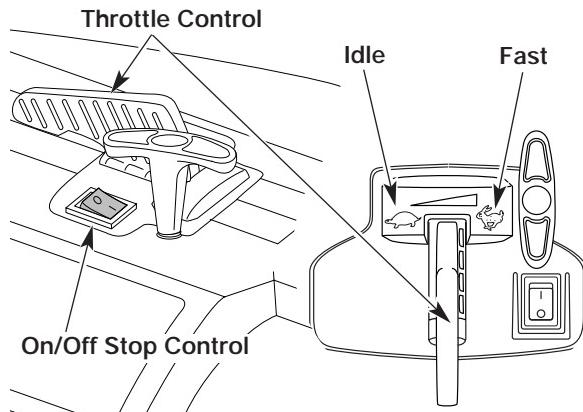
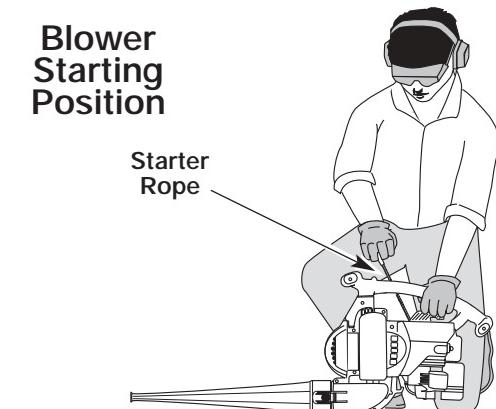
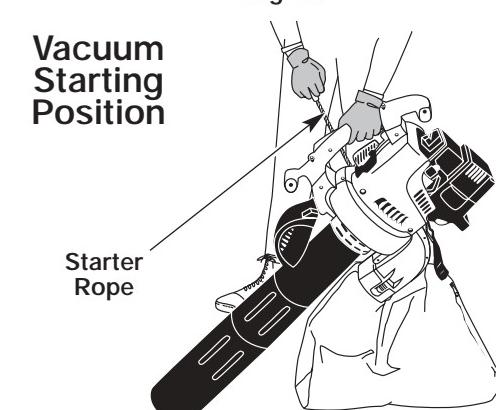

Fig. 10
Fig. 12
Fig. 13
WARNING: Avoid accidental starting. Make sure you are in the starting position when pulling the starter rope (Fig. 12 and 13). To avoid serious injury, the operator and unit must be in a stable position while starting. Do not set unit on any surface except a clean, hard area while starting. Debris such as gravel, sand, dust and grass could be picked up by the air intake and thrown out by the discharge opening. This could damage the unit, property, or cause serious injury to bystanders or the operator.
3. Place the unit in the starting position (Fig. 12 as a blower, Fig. 13 as a vacuum). Move the throttle control to the idle position (Idle) (Fig. 10). This is especially important during cold starting.